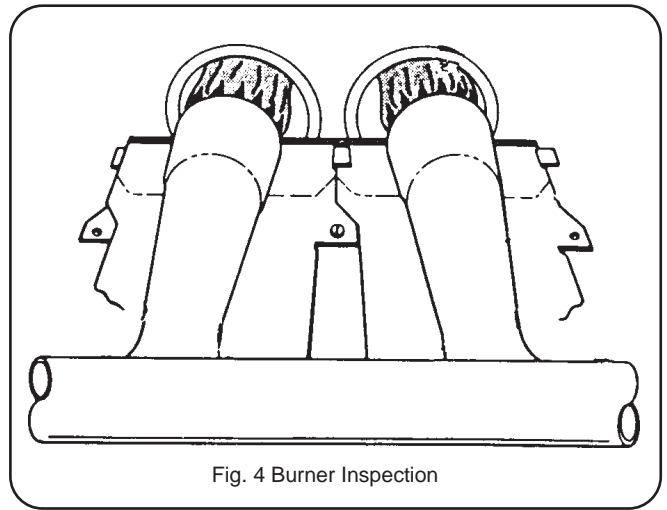

Fig. 4 Burner Inspection
1. With a 3/32 inch hex wrench, remove the manifold pressure tap plug located on the outlet side of the gas valve. Refer to Figure 4.
4. Allow the furnace to operate for three (3) minutes and then check the manifold pressure. For LP gas installations, the manifold pressure should be set to 10" WC. If the manifold pressure is not set to the appropriate pressure, then it must be adjusted.
1. If the manifold pressure must be adjusted, then remove the protective cap from the top of the gas valve regulator, as shown in Figure 4.